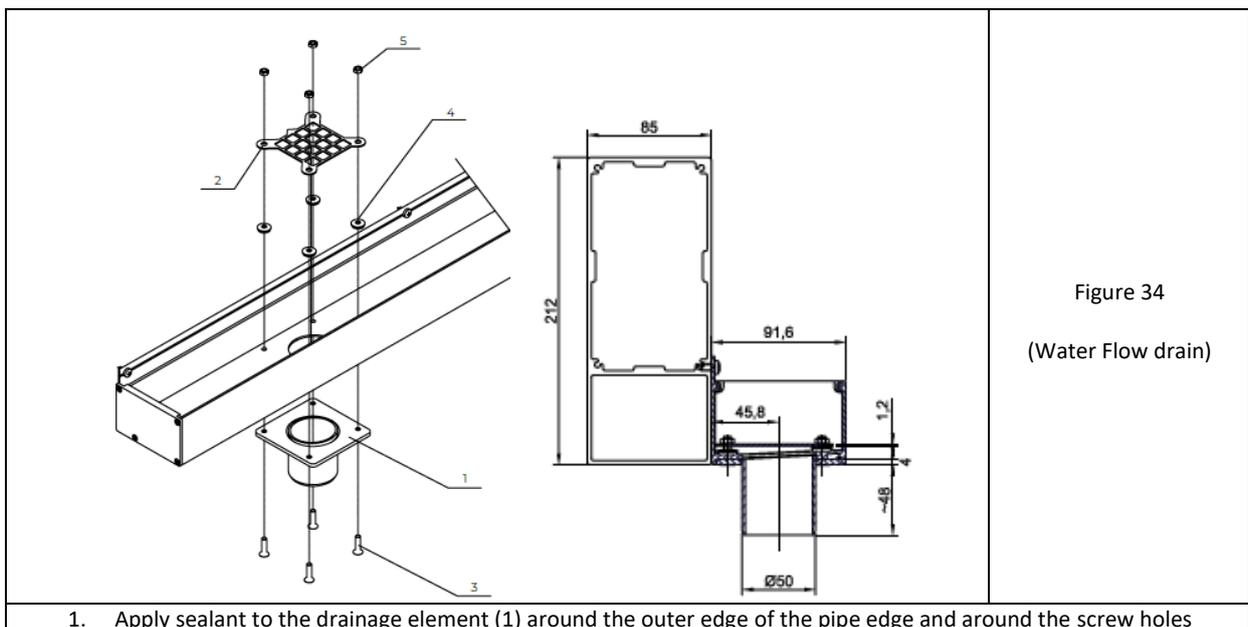

Figure 34
1. Apply sealant to the drainage element (1) around the outer edge of the pipe edge and around the screw holes
(closed loops). Insert it from underneath into the slot milled in the gutter bottom, paying attention to the slope of the chamfered upper edge of the pipe in line with the slope of the gutter bottom and the alignment of the mounting holes (they are rectangular). Insert stainless steel screws M5x20 with countersunk head and Allen socket (3) into the holes from the bottom - fig. 34.
2. From above, seal around the protruding screw threads (3) with sealant and apply dedicated EPDM washers (4).
3. Carefully use your finger to apply and spread the sealant to the edge of the gutter opening at the junction with the edge of the cut tube (1) - creating an airtight barrier against water penetration throughout the opening.
4. Set the stainless steel grating (2) on the spacers from the washers, positioning it with the spout against the higher wall of the gutter.
5. Screw the entire assembly together using M5 self-locking nuts (5).